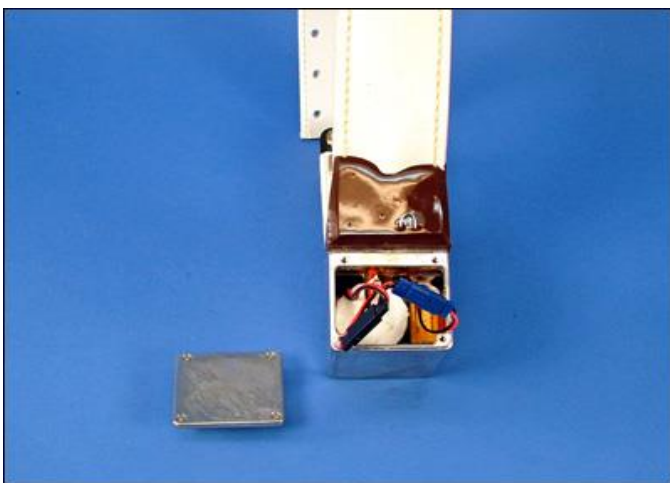

Fig. 2 Cover removed, ready to disconnect batteries
2. Gently tug on the wires and connectors and carefully separate (but do not disconnect) the leads and connectors for each battery pack **(Fig. 2)**. Note: there are two battery packs with connectors. One pack **PS007368-001** with a black connector powers the GPS unit and the battery pack with a blue connector **PS007369-001** powers the VHF transmitter.